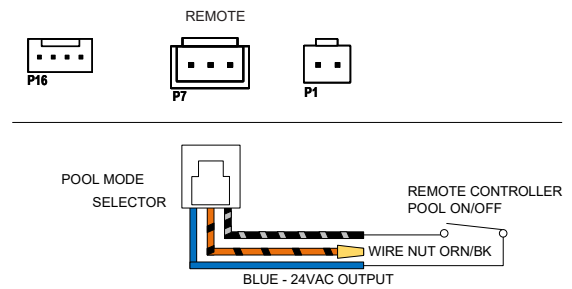

Figure 59. 2-Wire Remote Harness Installation
9. Attach wire nut on the ORANGE/BLACK wire of the 3-wire remote harness. See Figure 59.